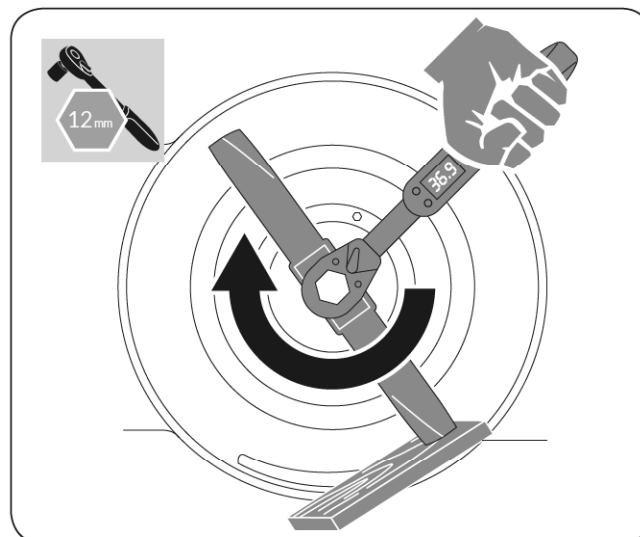

Figure 40
5. Install the new blade. Use a block of wood between the blade and lawn mower housing and tighten the blade bolt, turning clockwise. The recommended tightening torque is 33.3-36.9 ft.-lb. (45-50 Nm). (See **Figure 40**)